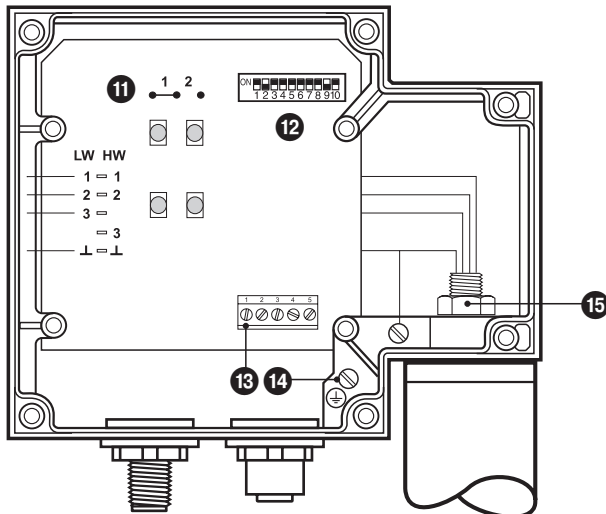

Fig. 14
2. Loosen nut **15** with 19 mm spanner. Do not remove it! **Fig. 14**